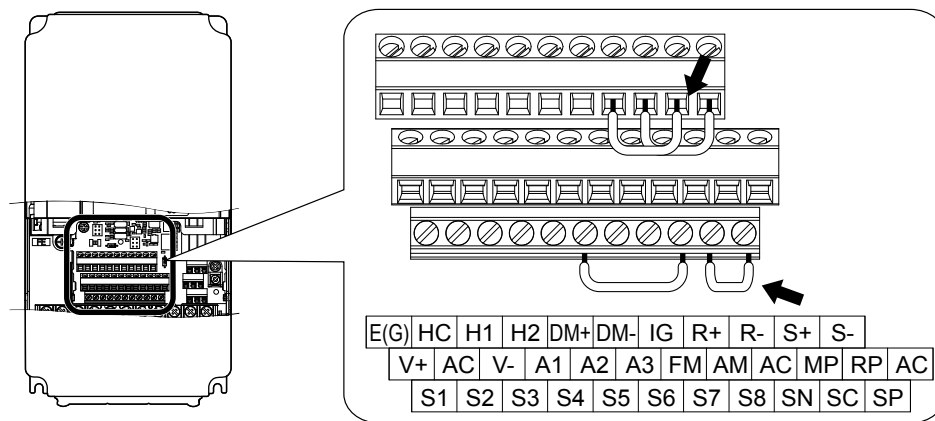

Figure B.8 Terminal Connections for Communication Self-Diagnostics
4. With the power off, wire the drive as shown in Figure B.8, connecting terminals R+ and S+, R- and S-, and S6 and SN.